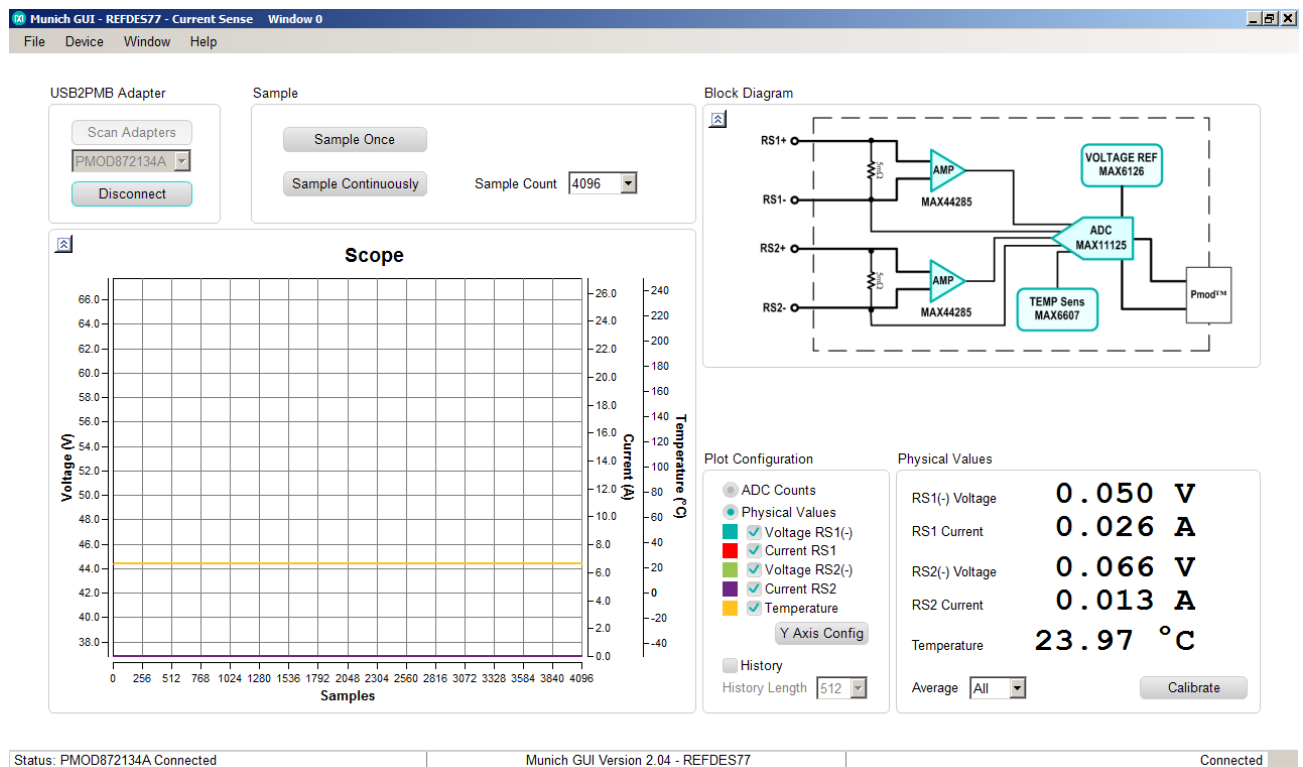

Figure 2. MAXREFDES77#/Munich GUI.
9. Press the Calibrate button to perform linear calibration for accurate measurements. When in calibration mode, it is necessary to select ADC Counts in the Plot Configuration and keep Sample continuously running. See **Figure 2**.